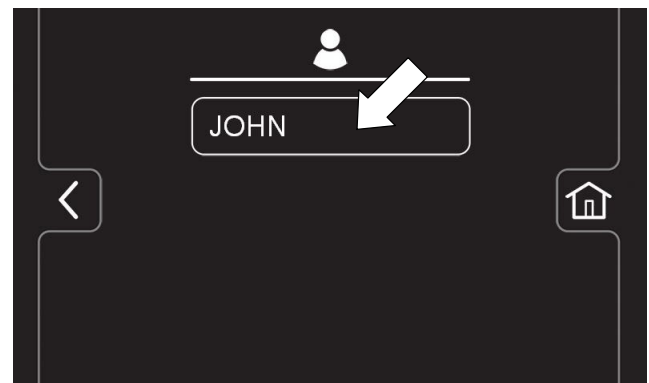

FIG. 170
7. Select a pre-assigned user profile. In this example, operator profile "JOHN" is selected (Figure 170). Turn the key off to apply the setting.